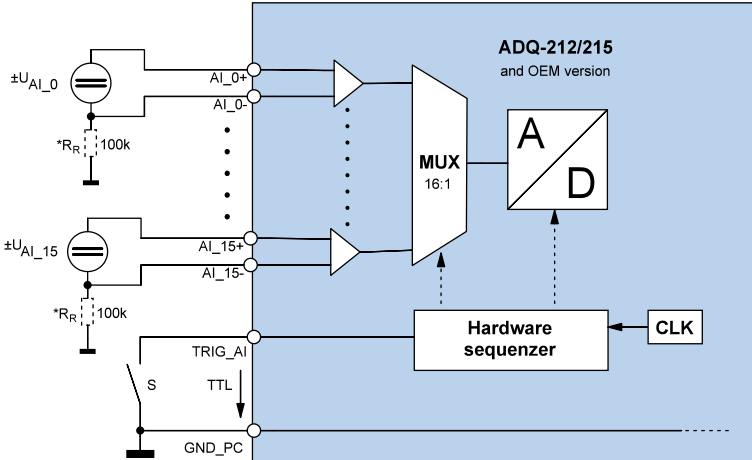

Figure 7: Differential inputs
**\*TIP:** In some cases it can be necessary to connect the differential input stage with PC ground by a reference resistor  $R_R$  (100 k $\Omega$  recommended) as shown in Figure 7.